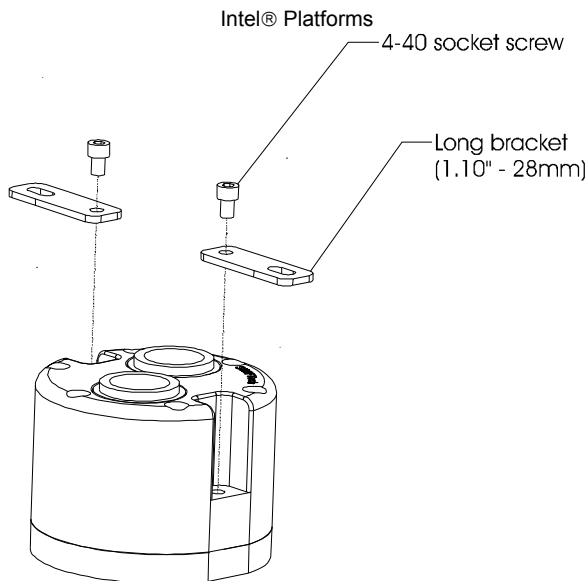

Figure 1
a. **Prepare two pieces of tubing** of sufficient length to connect to the rest of your circuit. The cuts must be square as shown in figure 1 or leaks may occur: